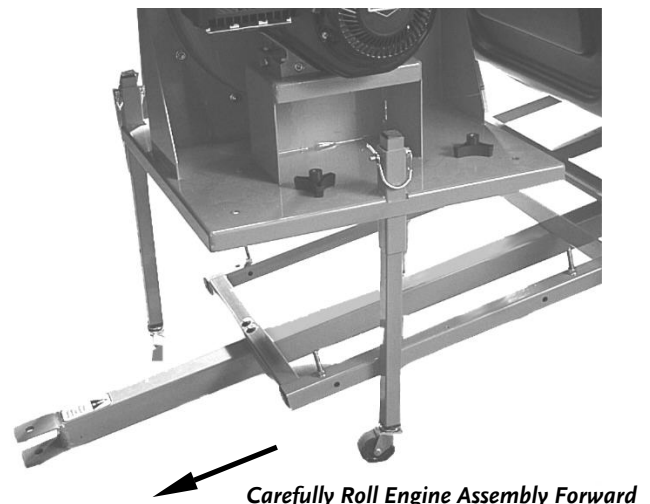

Figure 49
6. Slowly lower the Trailer from under the engine (**Figure 49**). The engine assembly is now free for you to move it away from the Trailer.
7. Carefully roll the Engine Assembly forward from the Trailer Frame (**Figure 49**).